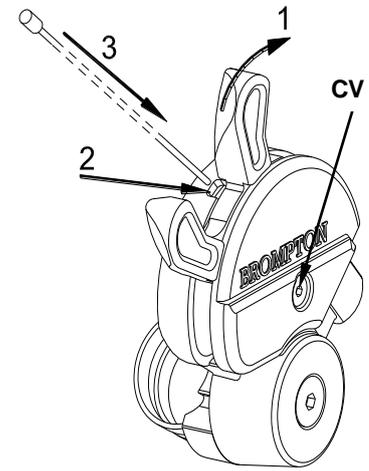

fig GTR7
To fit the inner wire to the trigger, set the trigger lever in the middle gear position and lightly push the lever in direction **1** (**fig.GTR7**) to open up the cable loading window **2**.
**TIP.** Rotating the inner wire slightly while feeding the inner wire through the control can assist loading/unloading. If you experience trouble feeding the new wire in through the trigger nipple hole, set the control as shown in **fig GTR7** and look for the hole in the trigger nipple **TN** through the window and then visually guide the inner wire into the trigger nipple